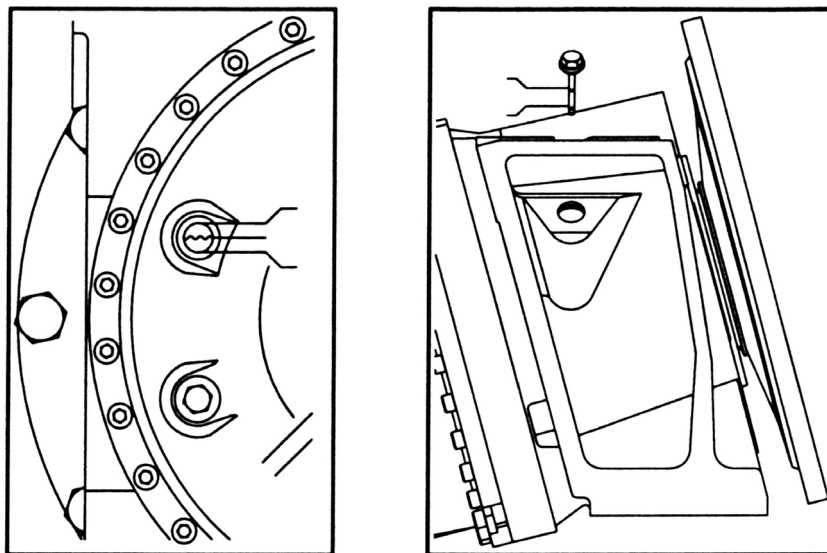

Figure 22: Oil level indicators of reducer
Before starting up the mixer check that the oil level in the reducer is above the minimum “A” (Figure 22).
- Fill the reducer up to level “B” (Figure 22) with oil of the same type and with the characteristics indicated in the Chart of Lubricants;
- Startup the mixer at minimum, letting the drum rotate at very slow speed and check that the oil level does not drop below the midline “B” of the visual oil gauge or level “C” of the rod (Figure 22) ;